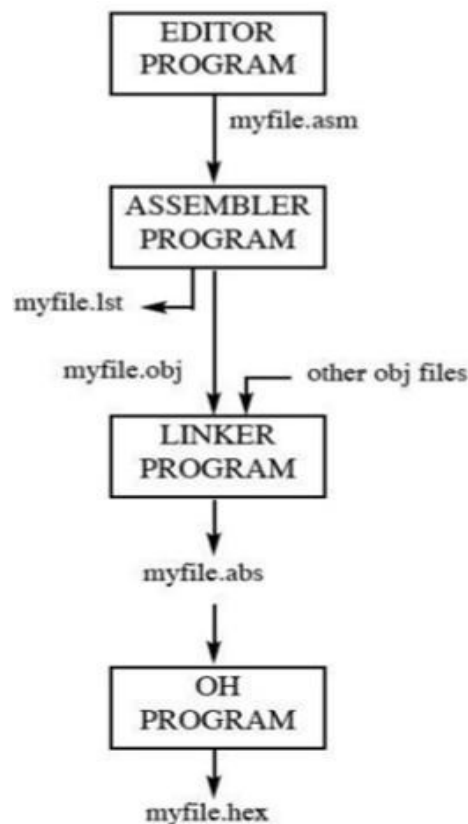

Fig. 2.10: Flow chart of steps to create a program
- Next, the ".abs" file is fed to a program called "OH" (object to hex converter), which creates a file with the extension ".hex" that is ready to burn in to the ROM. The complete set of steps are shown in the flowchart of Fig.2.10.